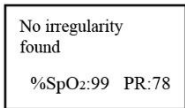

Figure 15E
- ✧ When the measurement ends up for Spot check mode, the measured SpO₂, PR value and the analysis result of pulse rhythm will be displayed on the screen, as shown in figure 15E.